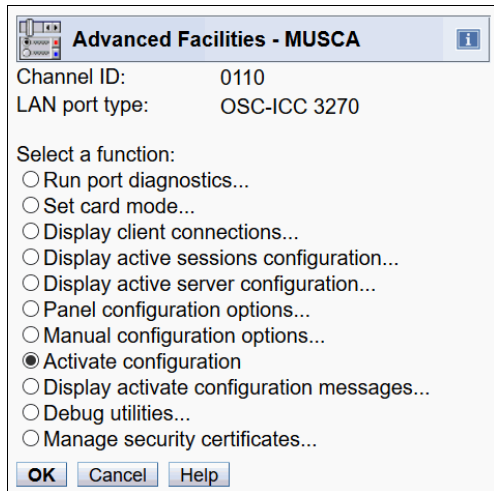

Figure 7-11 Activate configuration
14. When the validation is complete without any errors, you can activate the OSA-ICC configuration. To activate configuration, exit the **Panel Configuration Options** window by clicking **Cancel**. Then, select **Activate configuration** in the Advanced Facilities window (see Figure 7-11).